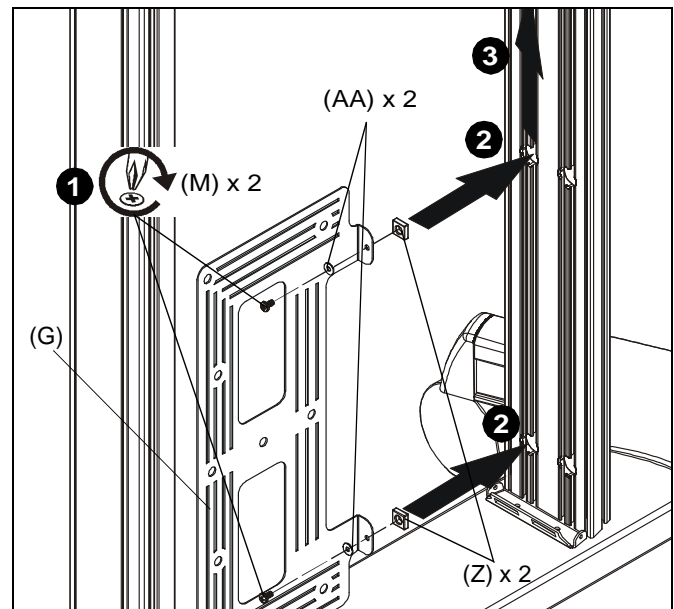

Figure 3
1. Loosely install two #10-24 x 3/8" Phillips head machine screws (M) through two #10 washers (AA), holes in component bracket (G) and into two #10-24 square nuts (Z). (See Figure 3)
2. Insert two #10-24 square nuts (Z) into two openings on column channel. (See Figure 3)
3. Lift component bracket (G) to desired mounting position. (See Figure 3)
4. Tighten screws to secure in position. (See Figure 3)